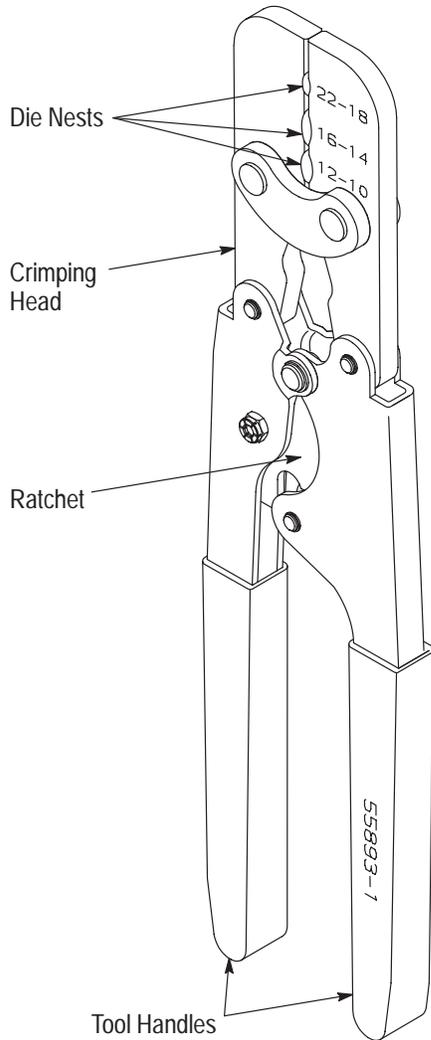

Figure 1
**1. INTRODUCTION** (See Figure 1)